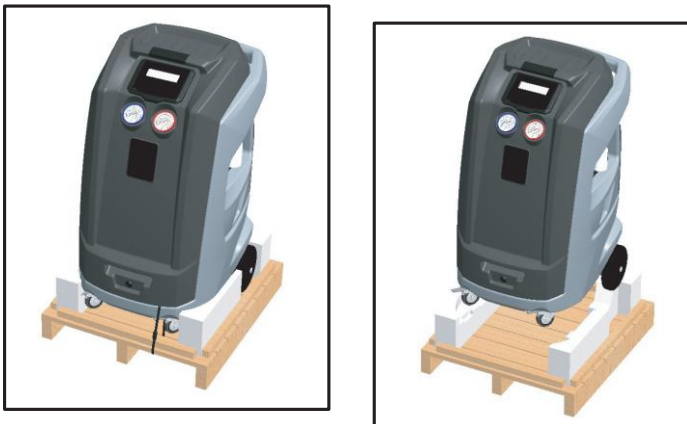

Fig. 11: Tilting unit backwards
- With 2 people, lift both front wheels by levering with the handle so unit is setting on the rear wheels (Fig. 11).